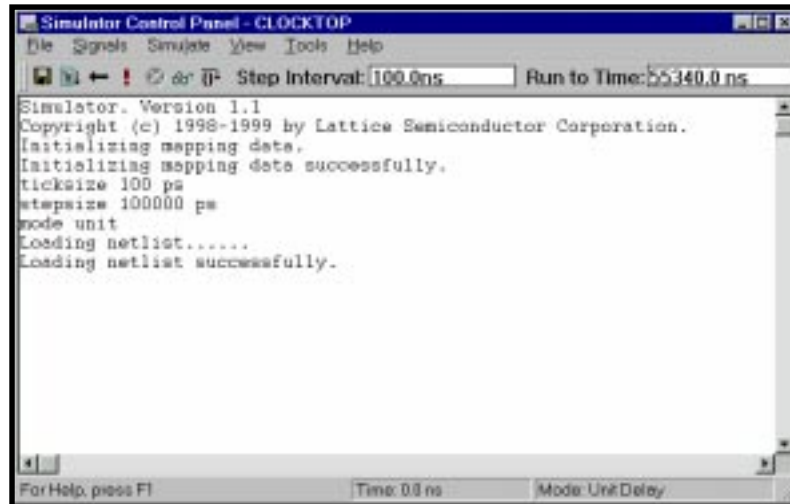

Figure 5-2. Simulator Control Panel
3. The Simulator Control Panel window appears (Figure 5-2).